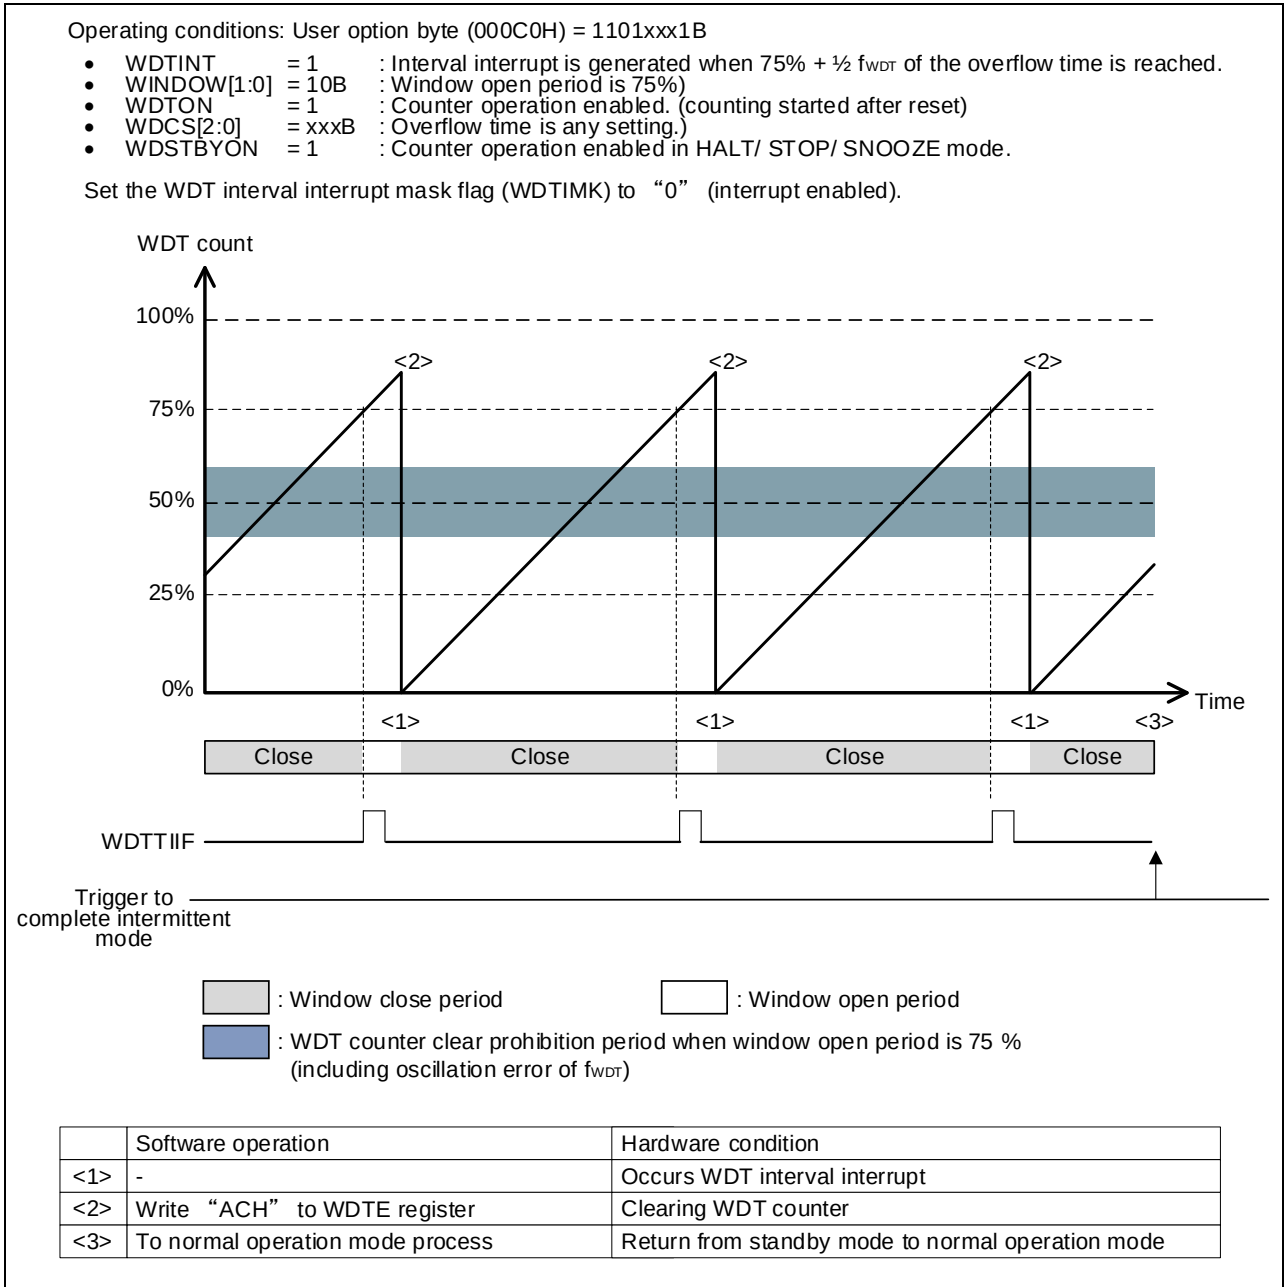

Figure 15-2 Processing Example When Using the WDT Function
- (1) When the window open period of watchdog timer is set to 75%, the processing to avoid the window close period and clear the counter. Table 15-1 shows the watchdog timer counter clear prohibition period when the window open period is set to 75%, and Figure 15-2 shows a processing example that the processing to avoid the window close and clear the counter in standby mode (intermittent operation).
Figure 15-2 shows a processing example that returning from standby mode to normal mode by the WDT interval interrupt and clear the WDT counter (write “ACH” to the WDTE register).
P.62	Corrected “Figure 15-2 Processing Example When Using the WDT Function”.